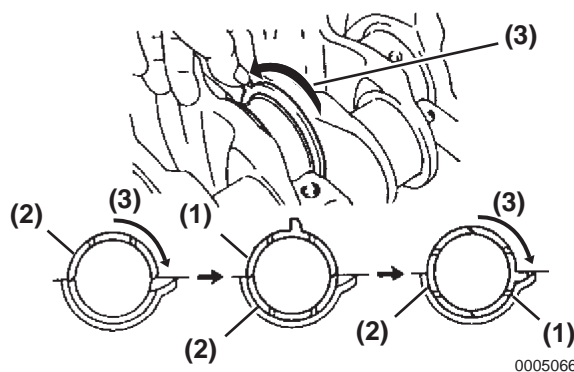

Figure 5-143
5. Push the crankshaft towards the front or rear of the cylinder block and install four thrust bearings to journal No. 4 of the cylinder block with the oil grooves facing outwards (**Figure 5-143**).